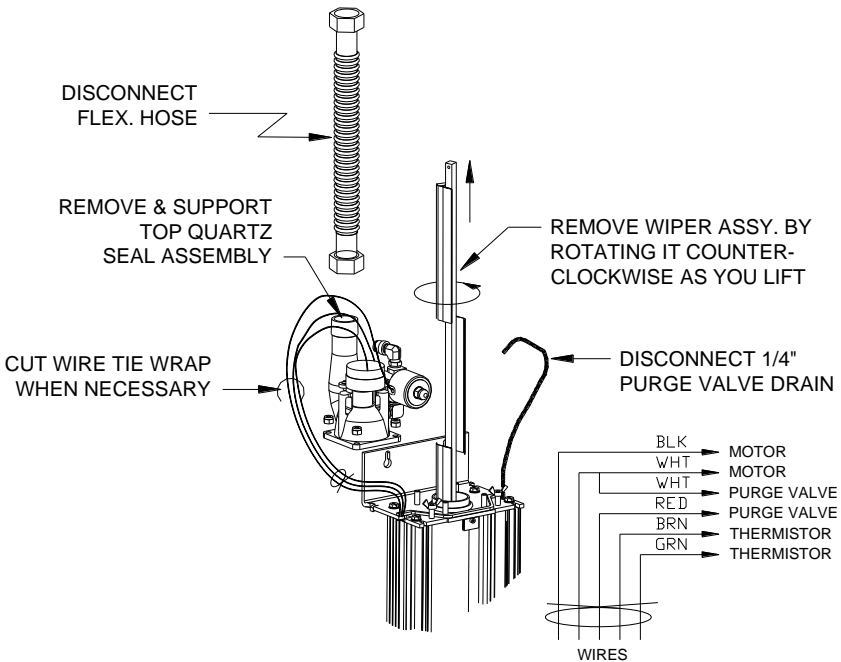

Figure 4C
**Step 5:** Remove the top quartz seal assembly (Figure 4C) by lifting it straight up. The wires are bundled together using a tie wrap. If you require more room to lift the top quartz seal assembly, cut the tie wrap to give you more freedom to lift the assembly over the wiper shaft.
**Step 6:** Remove the wiper assembly (21) by carefully lifting it up and out of the quartz sleeve. Rotating it as you lift will help. **Caution: the wiper blades are sharp, handle them with care.**